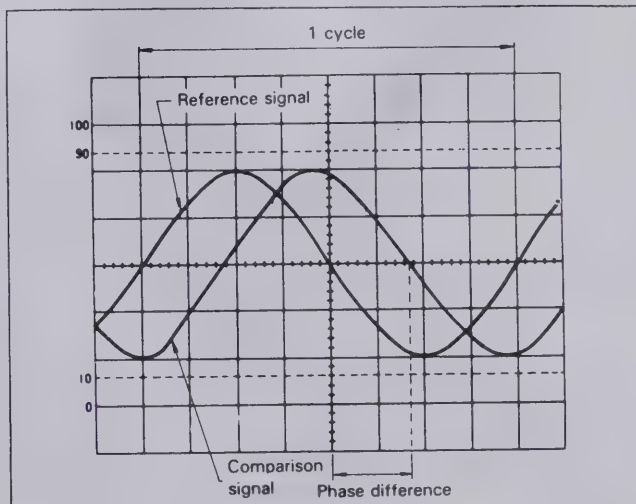

Fig. 15. Phase Difference Measurement.
(Refer to Fig. 15)
3. Use the \blacktriangleup POSition controls to position the waveforms in the vertical center of the screen. Use the **TIME/DIV** and **VAR SWEEP** controls to adjust the display so one cycle of the reference signal occupies 8 divisions horizontally (see Fig. 15). The **TRIG LEVEL** and \blacktriangleleft X POSition controls are also useful in achieving this display. The display should be as shown in Fig. 15, where one division now represents 45° in phase.
For the example shown in Fig. 15, the horizontal distance is 1.7 divisions. Thus, the phase difference is calculated as follows: